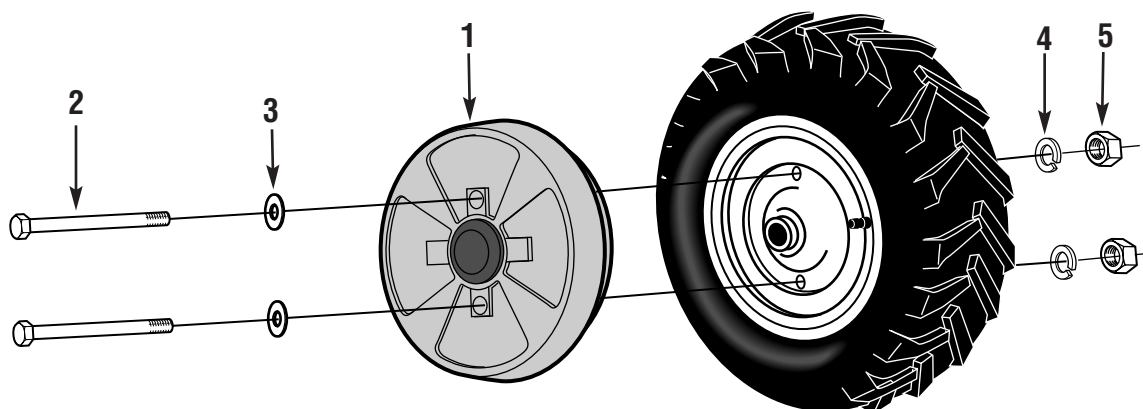

Fig. 3
Please check the contents of the service kit with the parts list below and as shown in Figure 3. If any parts are missing or damaged, contact your local service dealer or the factory.
2. Place a flat washer on the bolt and insert the bolt through the wheel weight and the wheel. Add a lockwasher and nut as shown in Figure 3.